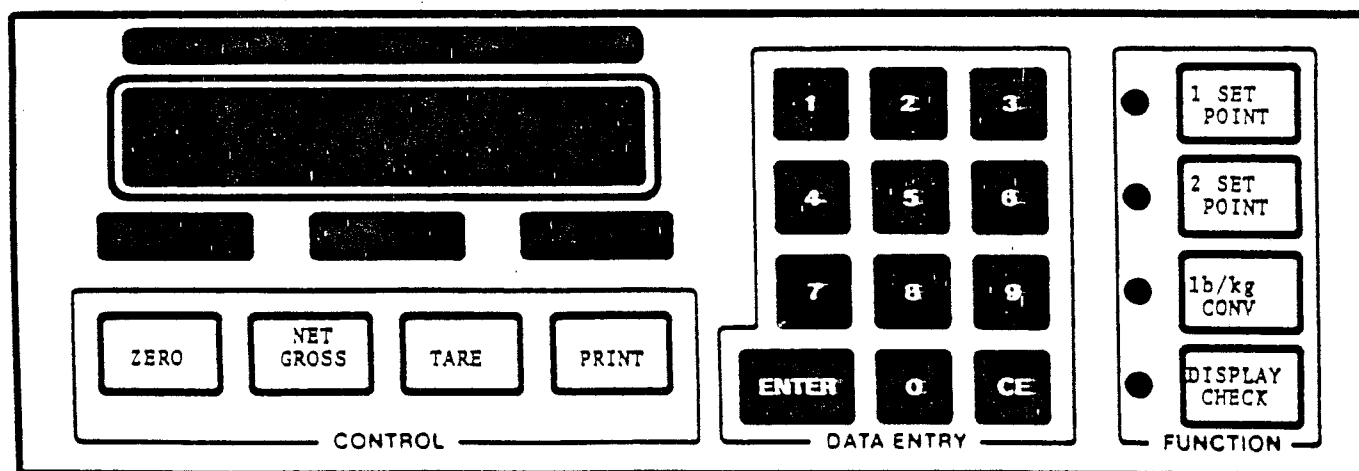

FIGURE 1.5
- C.5 Display Check (Figure 1.5, Section 7)